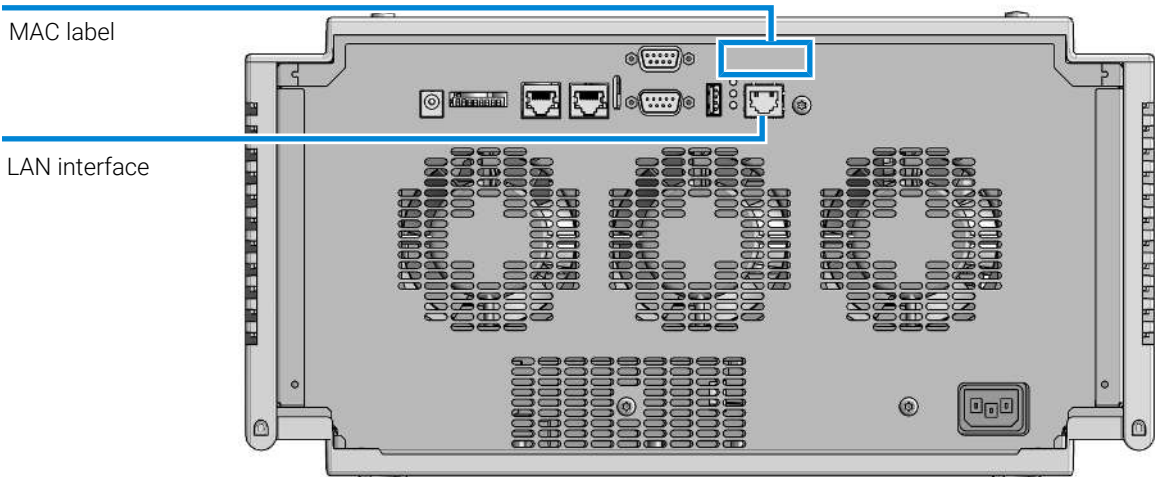

Figure 27: Location of LAN interface and MAC label
- 1 Note the MAC (Media Access Control) address for further reference. The MAC or hardware address of the LAN interfaces is a world wide unique identifier. No other network device will have the same hardware address. The MAC address can be found on a label at the rear of the module (see Figure 27 on page 324).
- 2 Connect the instrument's LAN interface (see Figure 27 on page 324) to